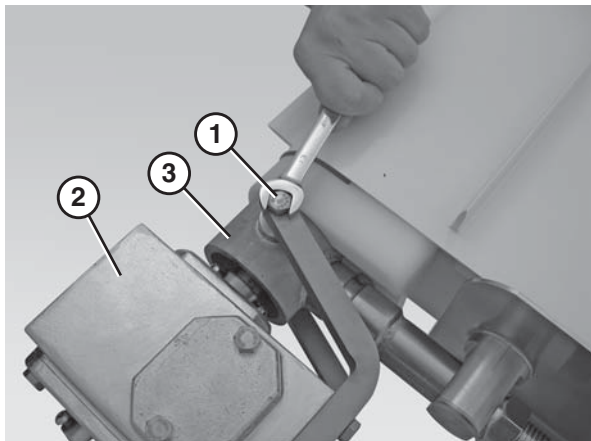

Figure 54
4. Remove the bolts (Figure 54, item 1) that connect the gear reducer (Figure 54, item 2) to the motor support bracket (Figure 54, item 3) and slide the gear reducer off the drive spindle.